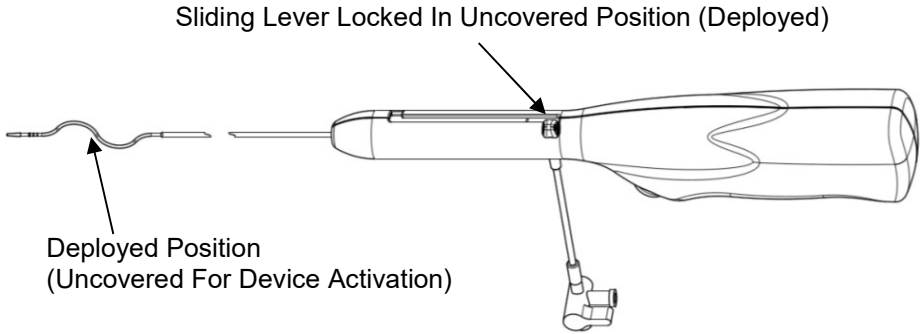

Figure 4
- Advance the flexible tip up to the distal most extent of the clot. Uncover the sinuous wire by unlocking, fully retracting the sliding lever and rotating the sliding lever until an audible "click" is heard (refer to Figure 4). Confirm device positioning within the treatment site via fluoroscopy. Press the ON/OFF switch to activate rotation.